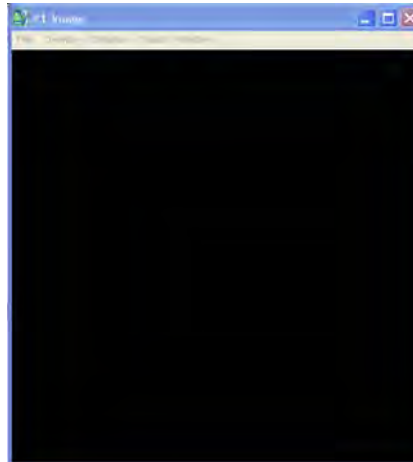

Figure 14. New Blank Window
- a. Select New Display, a blank display window appears (see Figure 14)